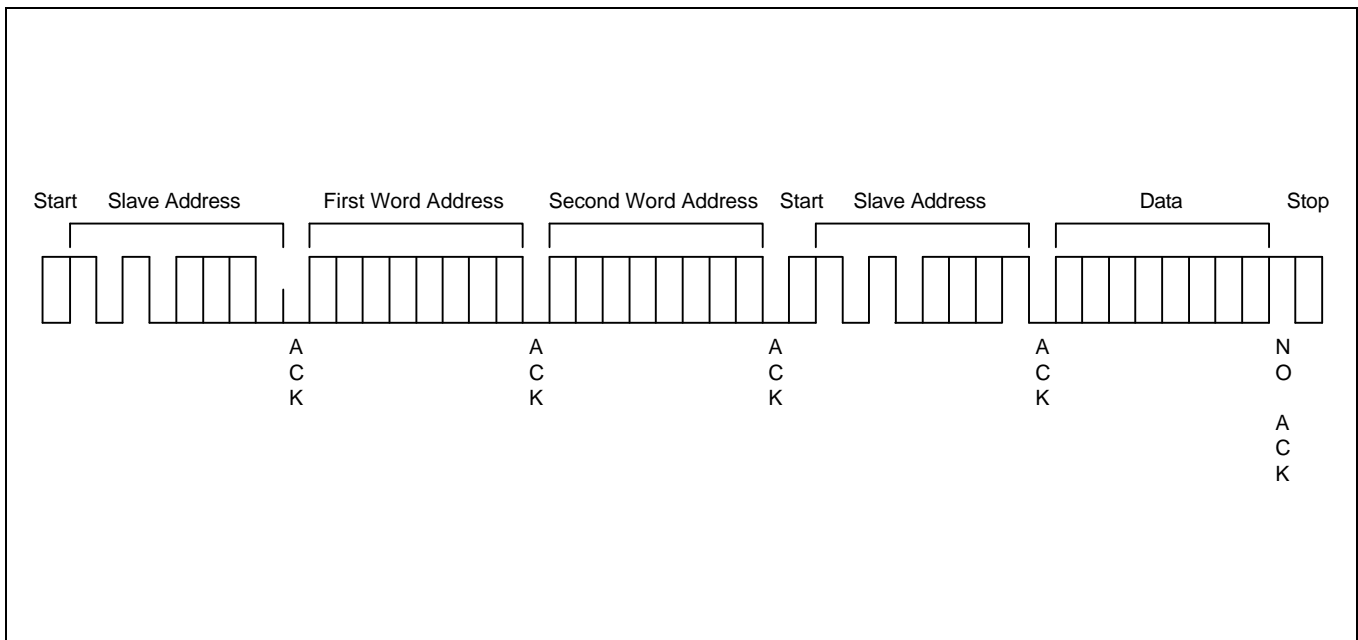

Figure 6-14. Random Address Byte Read Operation
5. The S524AB0X91/B0XB1 stops transmitting data and reverts to stand-by mode (see Figure 6-14).